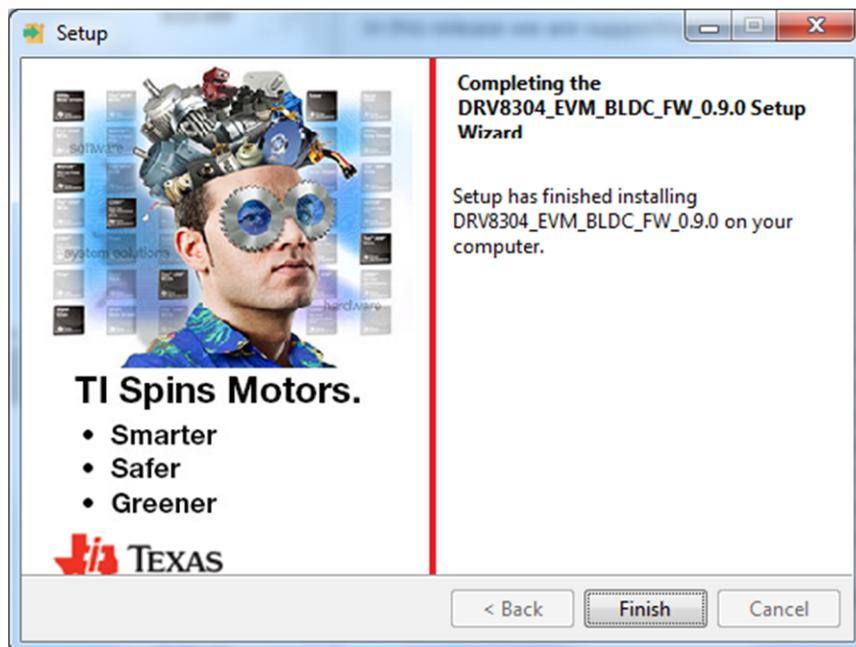

Figure 19. Firmware Setup Complete
Step 10. Click the *Finish* button when the files are successfully installed in the destination folder (see Figure 19).